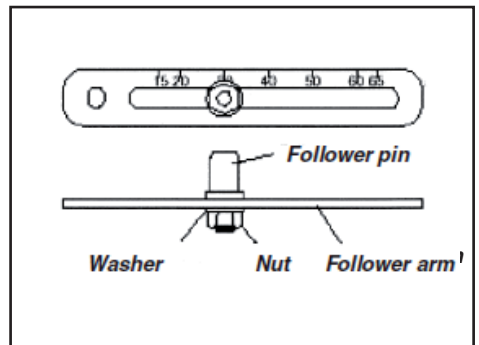

Figure 2. Follower Arm (standard)
1. Adjust the follower pin (STROKE + 10 mm) as indicated on the follower arm's embossed scale (Figure 2).